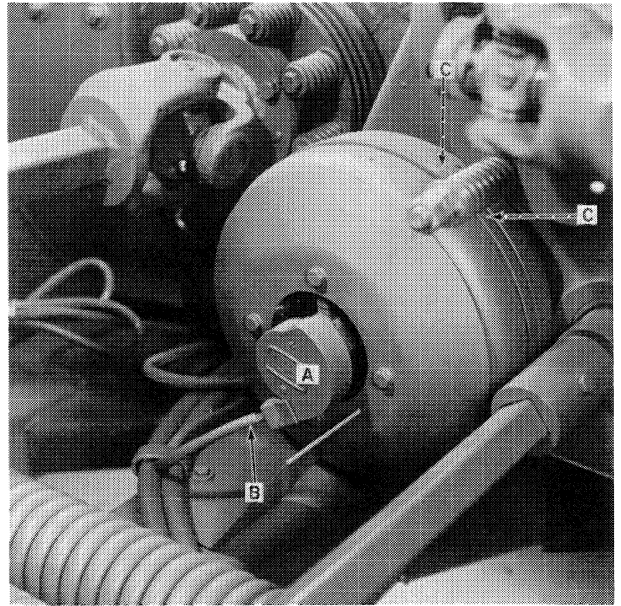
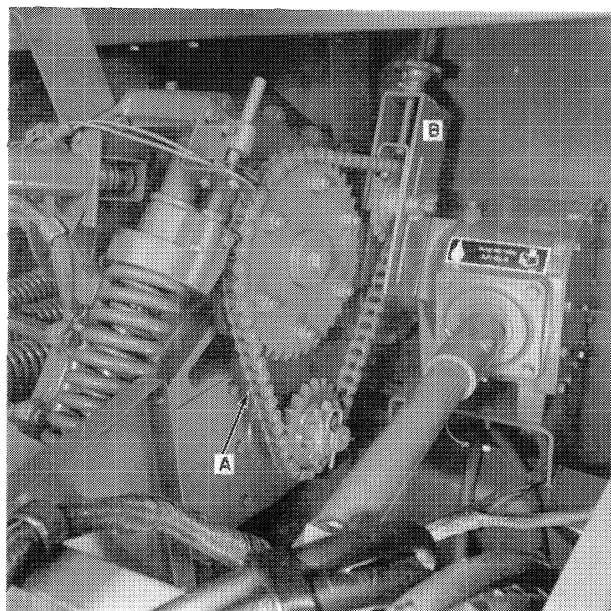

FIGURE 2-22
FIGURE 2-27
6. If the electric clutch assembly will be disassembled after the gearbox is removed, remove the brush box cover, A, Figure 2-22, and disconnect the two wires, B. Loosen the two mounting screws at C, Figure 2-27, enough to remove the wires. The wire ends are slotted for easy removal.
9. Remove the length-of-cut chain, A, Figure 2-27, and idler bracket, B.